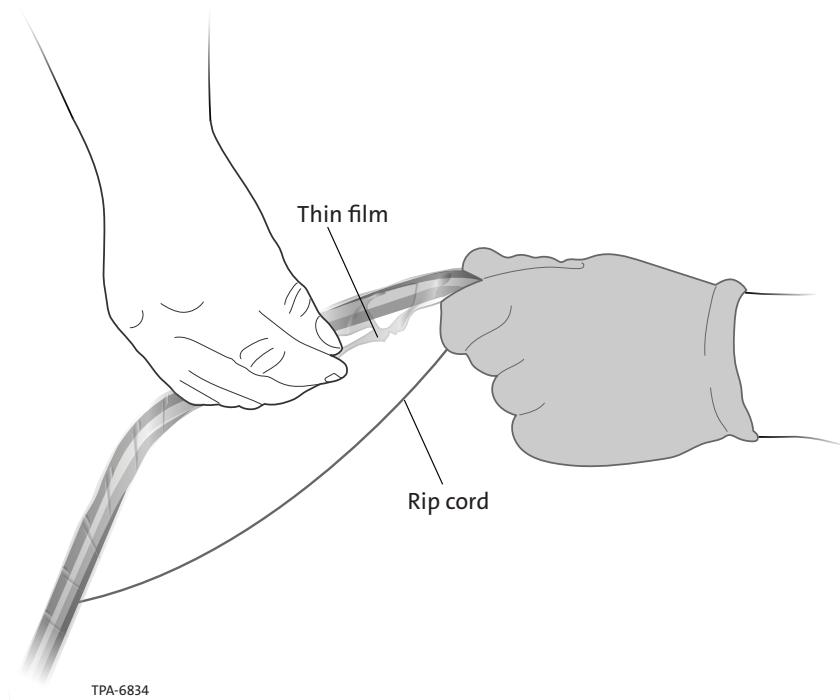

Figure 9
**Step 6:** Using fingers, peel off some thin film wrap on the end of the subunits and locate the rip cord. (Figure 9).